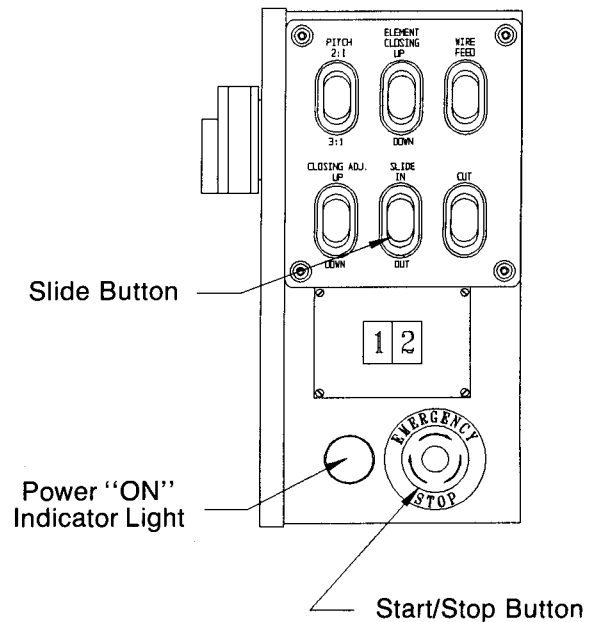

Figure 15
- A. Pull up on the red “START/STOP” button (see figure 15) to supply power to the machine. Move your hands away from the loading area and push the slide button to the “IN” position (see figure 15). This will advance the slide forward, exposing the oil holes.